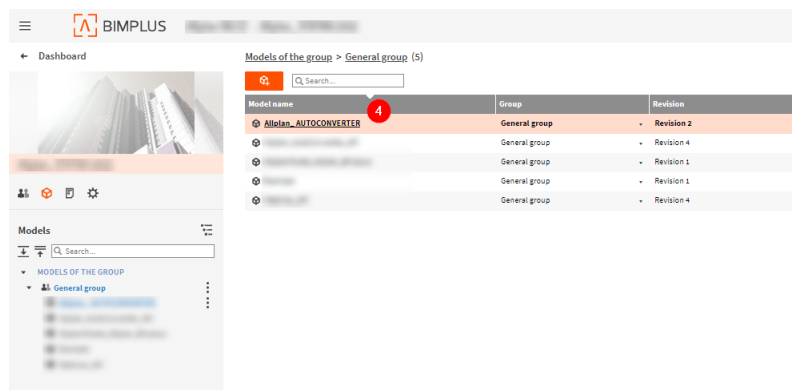

Figure 43: Open the model on Bimplus
4. Double-click on the structural model which is the issue related to opening the model in Bimplus viewer. (Figure 43)